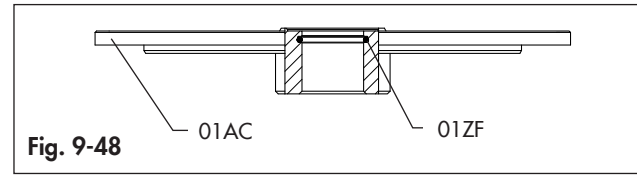

Fig. 9-48
- Replace and lubricate the o-ring (01ZF) inside the cover (01AC) (Fig. 9-48).